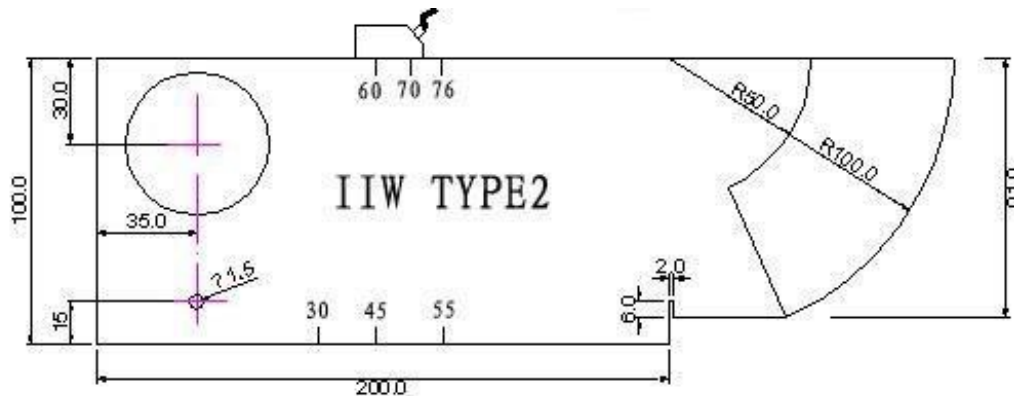

Fig.4.2 ANG ECHO
- (2) By the <Enter > key you can see ANG echo, Then put your probe as fig4.2, Try to find the highest echo of the hole ($\phi 50$), then press , you will see ANG=XXX.X.